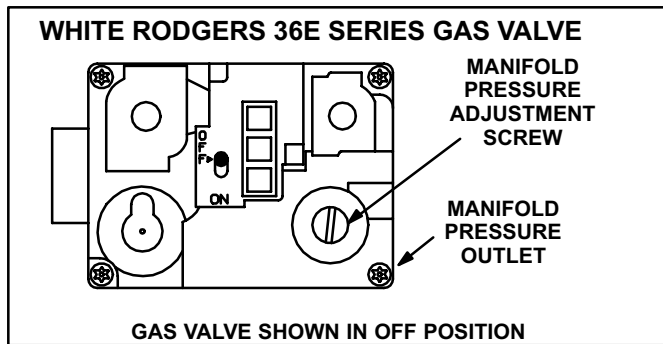

FIGURE 19
Inlet and outlet pressure taps are located on the valve. A regulator adjustment screw is located on the valve. Refer to figures 19 or 20 for location of valve features.
- 6 - *White Rodgers 36E Gas Valve* -- Switch gas valve lever to **OFF**. See figure 19.